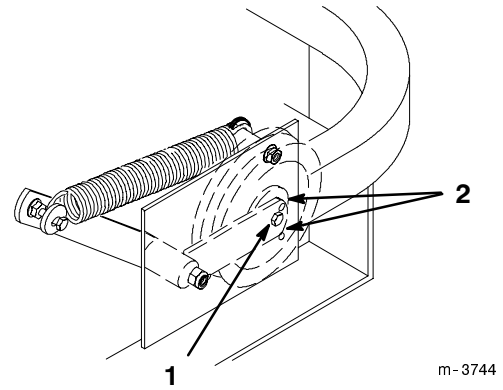

Figure 49
8. Check belt tension. The center bolt of spring loaded idler must be between the two alignment holes in left support plate (Fig 49).
10. Check belt tension again. The center bolt of spring loaded idler must be between the two alignment holes in left support plate (Fig. 49). Adjust, if necessary, and tighten all hardware securely.